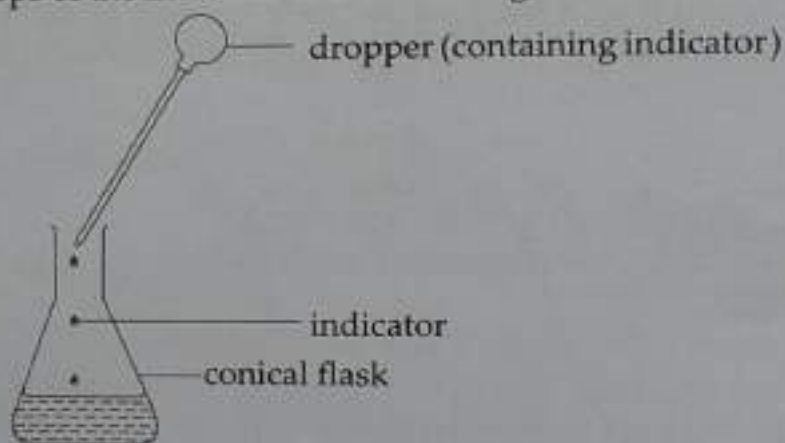

Fig. 4.5: Adding drops of indicator into the standard solution
- Add 2 - 3 drops of the indicator as shown in Fig. 4.5.